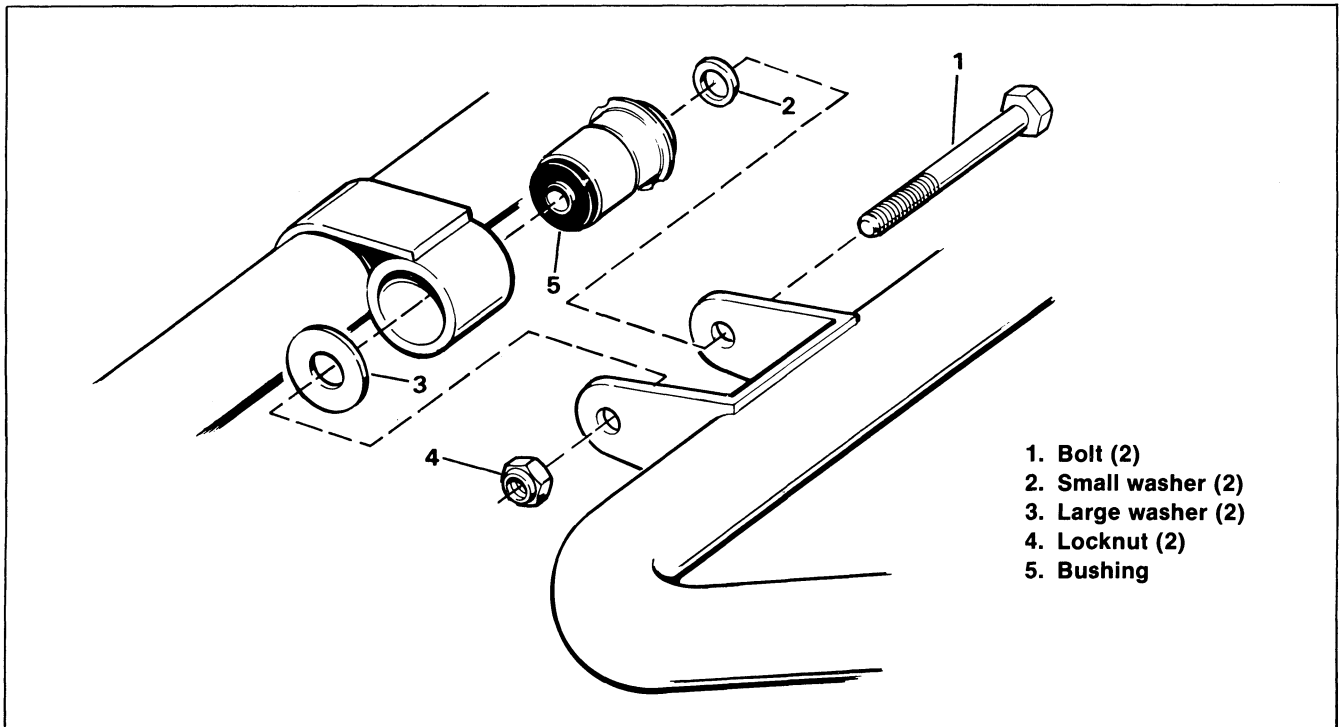

Figure 2-29. Rear Fork Bushing — Exploded View
Replacing Rear Fork Bushing(s) (Figure 2-29)
3. See Figure 2-29. Remove the nut (4) and pull the bolt (1) free of each mounting boss.
1. See Figure 2-29. Place the rear fork in the frame bosses and fasten using bolt (1), washer (2), nylon washer (3) and nut (4). Do not tighten nut (4) at this time.